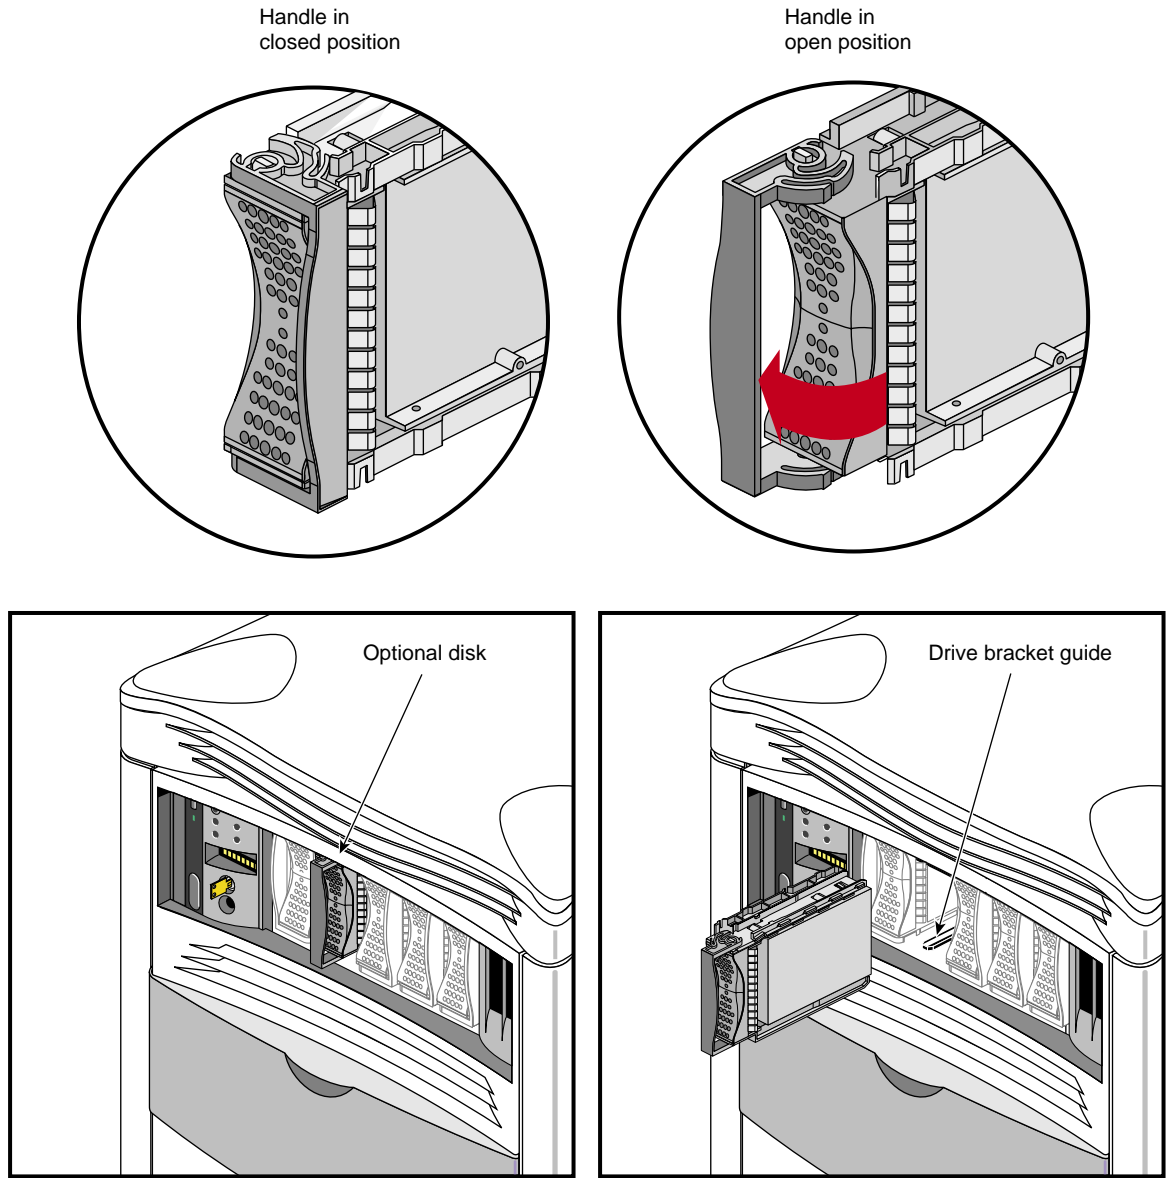

Figure 5-2 Removing a Data Disk Drive Module
2. Center the handle, as shown in Figure 5-2.